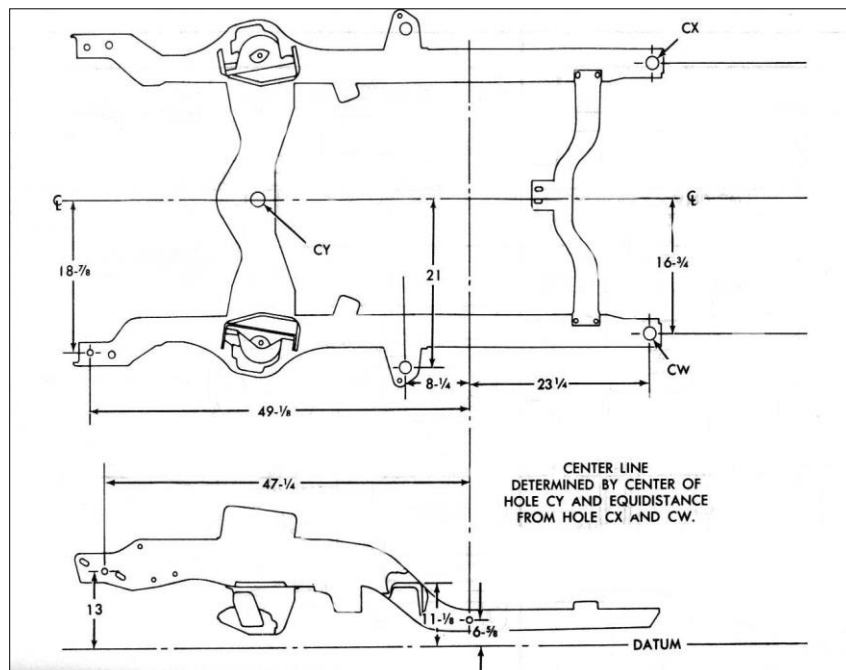

Figure 3:
7. If you are unsure about the exact mount locations, see figure *Figure 3* for dimensions.